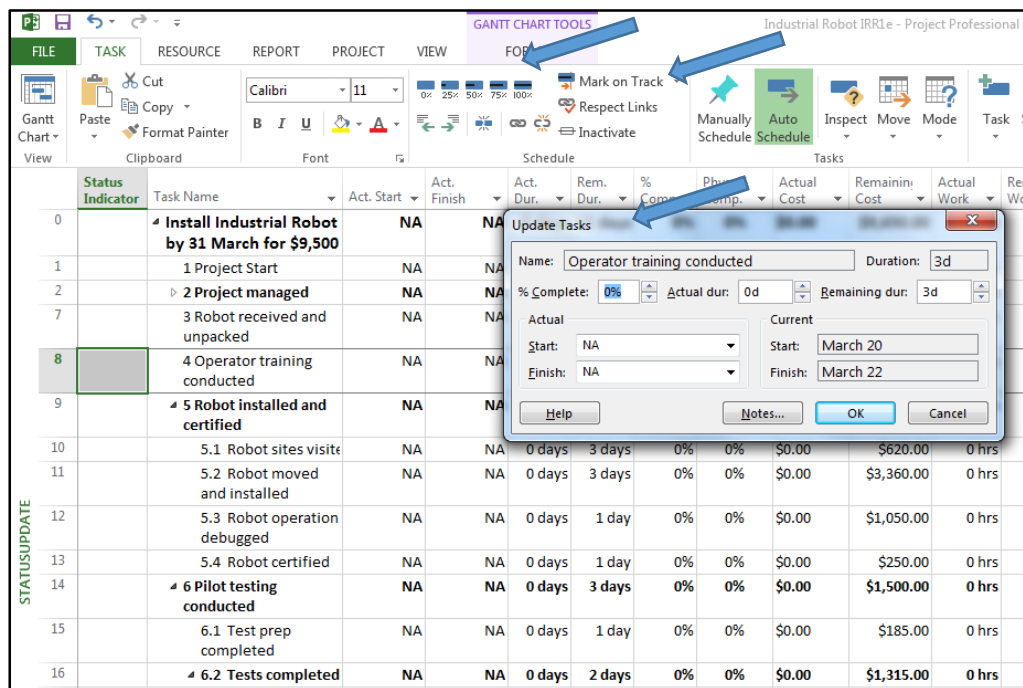

Figure 46
- If a task is complete, but it took longer than planned, go to the Task tab. In the Schedule section, click Mark on Track and select Update Tasks. In the Update Tasks dialog box, revise the information as appropriate, such as Actual Start/Actual Finish, Actual Duration/Remaining Duration, etc. Do this similarly if your task is behind or ahead of schedule (Figure 46).